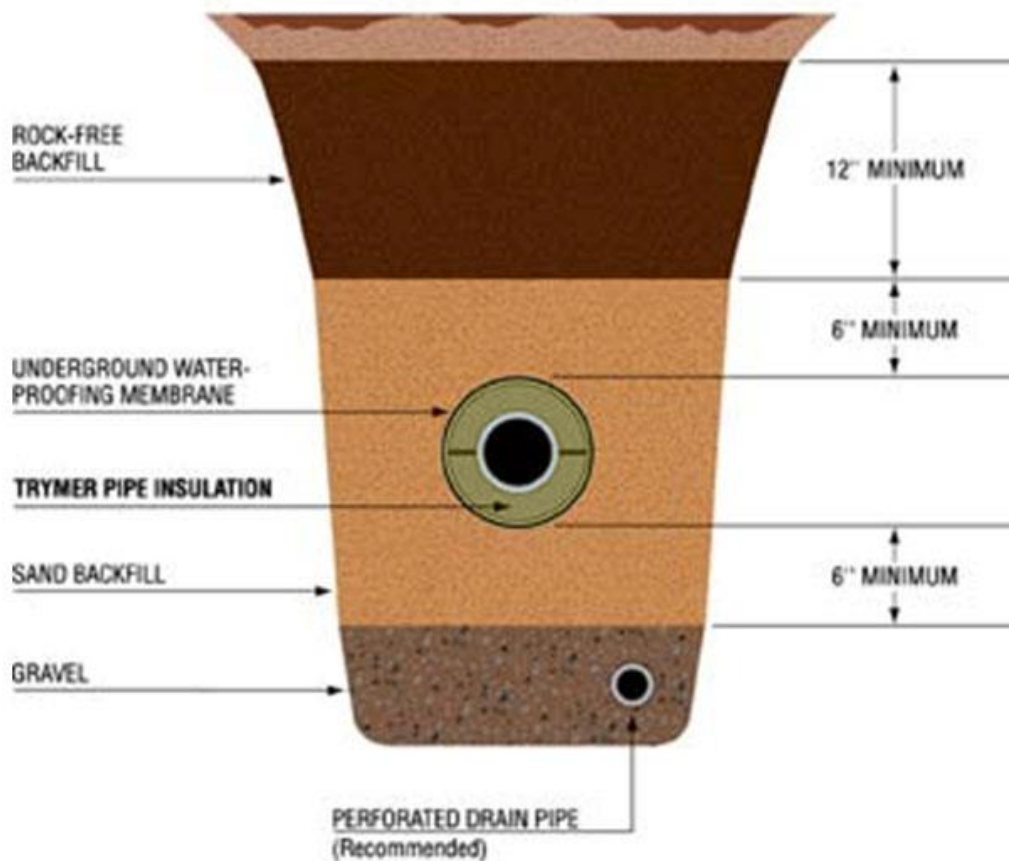

Figure 6
- 4.4.3 Trench to be constructed per detail in Figure 6 in Appendix B.